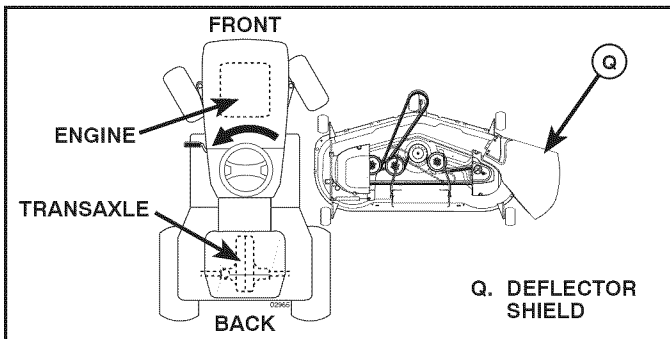

Fig. 27
3. TURN STEERING WHEEL LEFT AND POSITION MOWER (See Fig. 27)
- Turn steering wheel to the left as far as it will go and position mower on right side of tractor with deflector shield (Q) to the right.